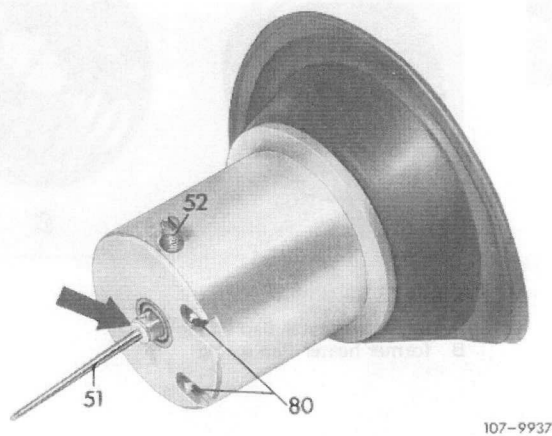

Fig. 175
Insert air piston and make sure that the vacuum compensating bores (Fig. 175, item 80) are facing engine side and that locating lug of air piston diaphragm enters locating groove of carburetor housing.